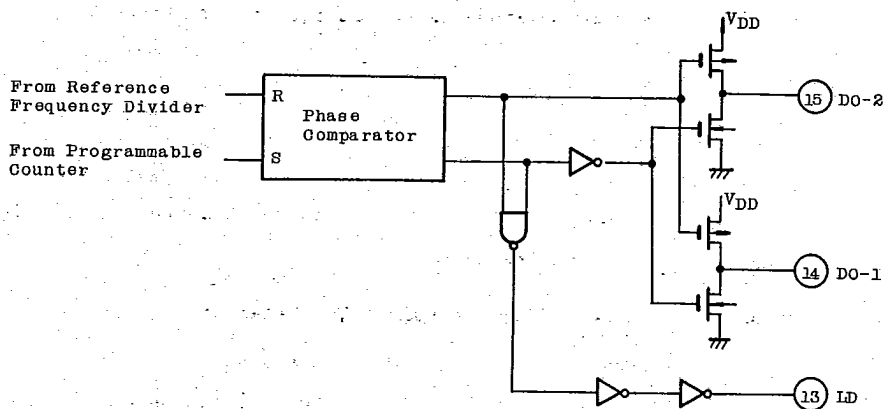

FIG. 2 CIRCUIT OF PHASE COMPARATOR BLOCK.
- b) LD output becomes "H" level for the phase error time period during lock out. (Refer to Fig. 2)